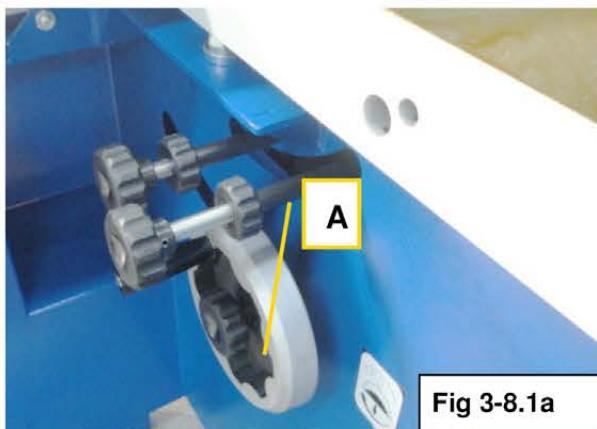

Fig 3-8.1a
1. Rise up the main saw blade by turning knob **A** (Fig. 3-8.1a) clockwise